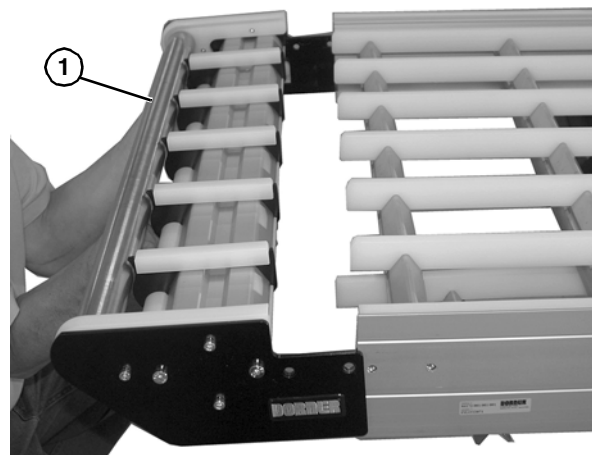

Figure 72
3. Remove idler tail assembly (Figure 72, item 1).